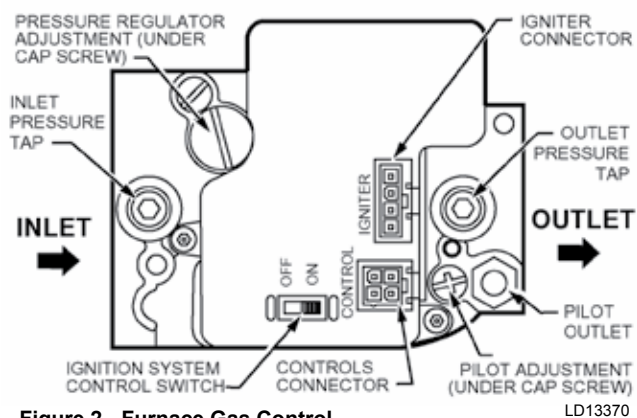

Figure 2 - Furnace Gas Control
5. Move the slide switch on the gas control valve to the OFF position (See Fig.2).